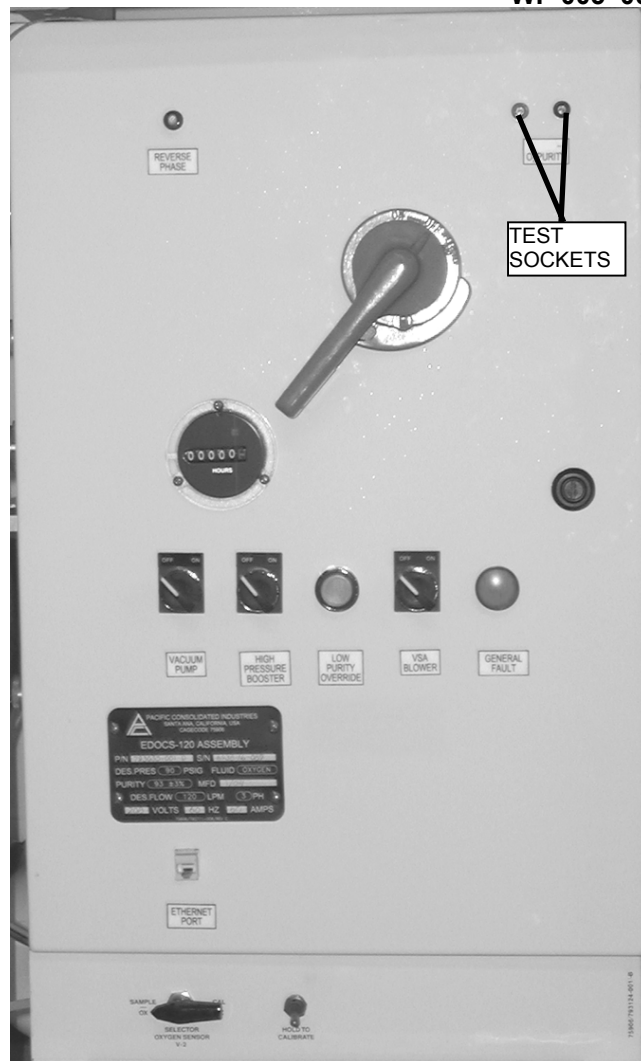

Figure 16. Electrical Control Box Door.
- g. When the low purity light stops flashing, check the voltage at the test sockets on the electrical box door (see Figure 16). Red is positive and black is negative.
Check the voltage at the test sockets on the electrical box door using a digital voltmeter (DVM) (see Figure 16). Red is positive and black is negative. The voltmeter should be